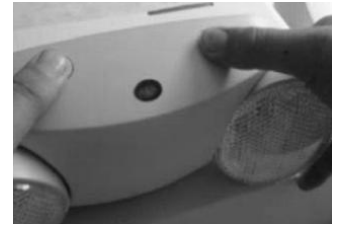

FIGURE 3
- D) Align clips and push housing directly onto main bottom case. Apply continuous AC power and press "TEST" button to check the light. (Figure 3)